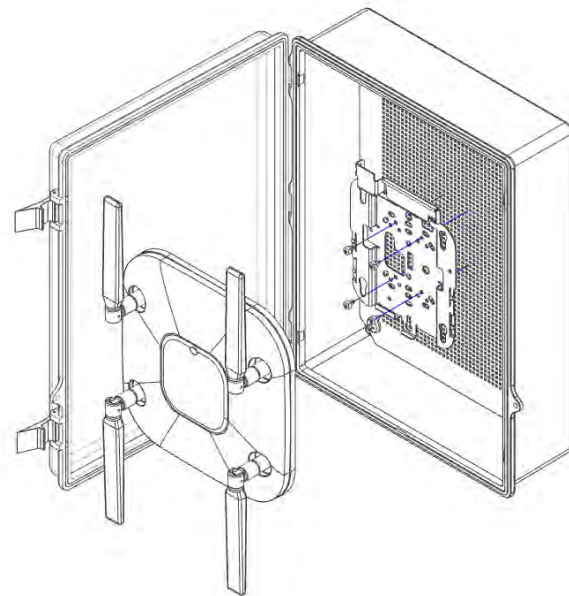

Figure 1
Step 2a – Securely fasten the access point's mounting plate to the enclosure panel using (4) # 8 self tapping screws. The assembly includes a T-bar bracket to attach to the panel so any Access Point can be mounted. **Use Cisco AIR-AP-BRACKET-2 for 2600e/3600e series Access Points and AIR-AP-BRACKET-1 for 3500e series.** (Figure 1)